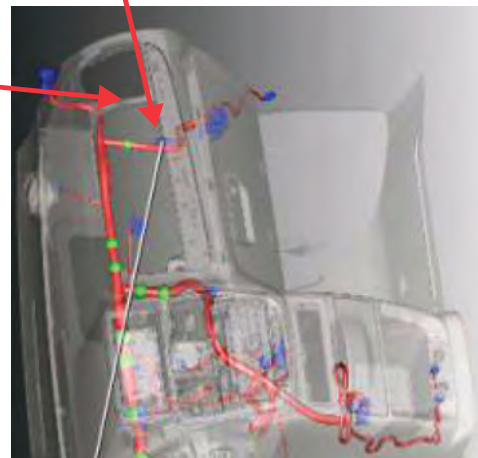

Fig 1
1. Tap the **CAN H/CAN L** from the module into the **CAN C+/CAN C-** circuits on the plug behind the glove box (on the right wall). **See Fig 1**
Note: Some vans don't have the plug behind the glove box. **See Fig 1** in these cases locate the same WT/BN & WT/BL Twisted Wires under the steering console.